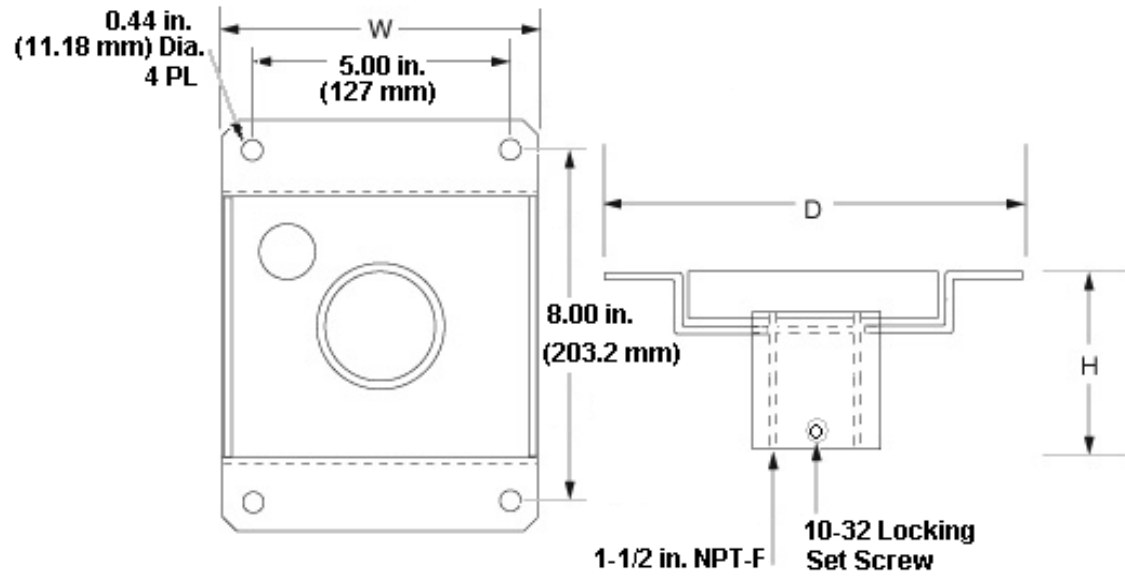

Figure 1
The V-UCM Ceiling Mount has a welded section of 1-1/2-inch (38 mm) diameter American National Standard Tapered Pipe Thread (NPT-F) coupling. The dome housing is mounted to the V-UCM on this pipe thread in accordance with the installation manual for the camera dome system. The ceiling mount is designed to attach to a ceiling or other horizontal surface. It has a mounting flange with a 4-hole pattern. See Figure 1.
Dimensions:	See Figure 1. Height (H): 3.1 in. (78.7 mm). Width (W): 6.0 in. (152 mm). Depth (D): 9.1 in. (231 mm).